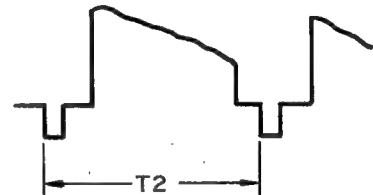

Figure 8-20.
2. Monitoring TP5 with an oscilloscope (internal trigger), adjust R737 to obtain  $T_2 = 64 \pm 3\text{ms}$  as shown in Figure 8-20.
2. Monitoring TP5 with an oscilloscope (internal trigger), adjust R736 to obtain  $T_2 = 64 \pm 3\text{ms}$  as shown in Figure 8-20.